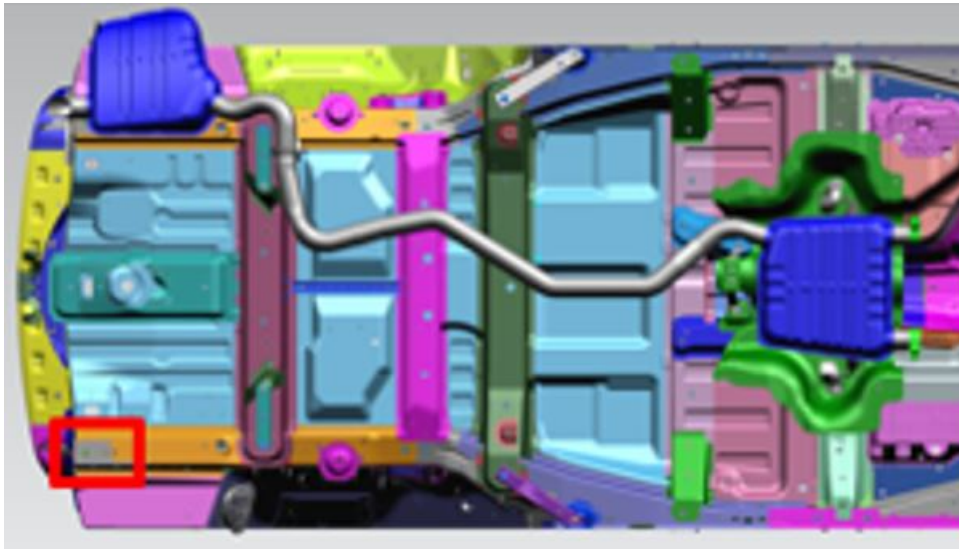
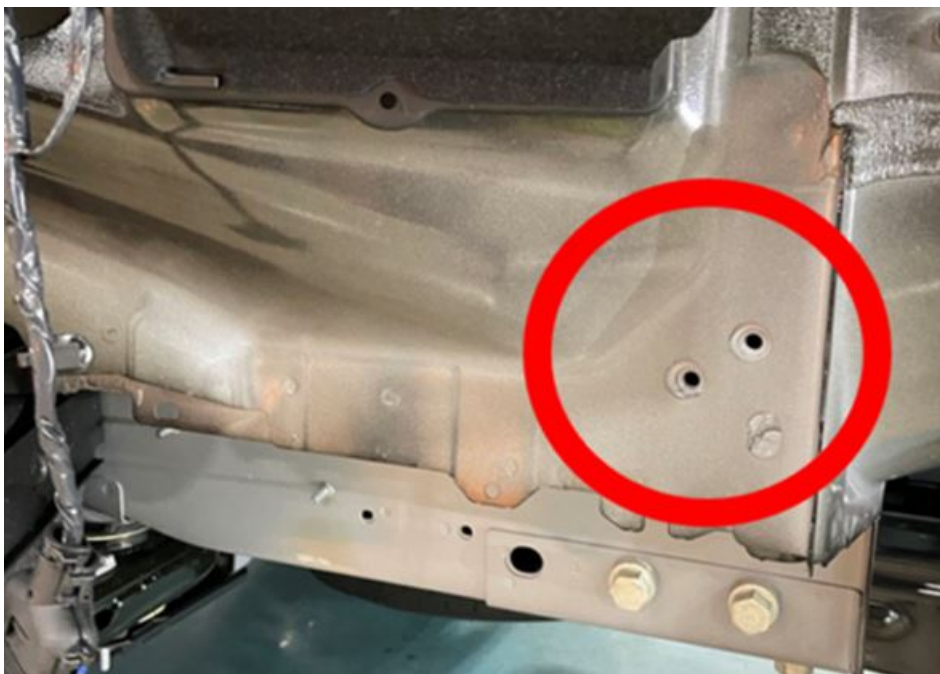

Fig. 1
Fig. 2
2. Locate two open bolt holes located at the left rear of the vehicles (Fig. 1) and (Fig. 2) .